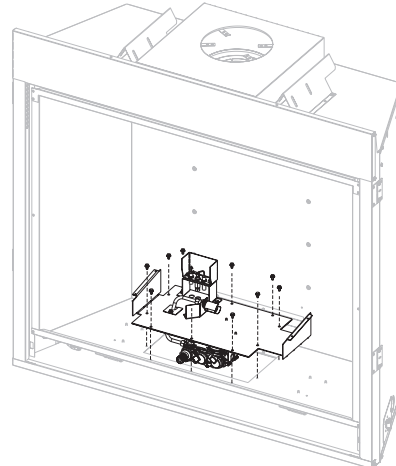

Figure 10
7. Remove seven screws and lift burner assembly. **See Figure 10.**
12. Reinstall the burner assembly and seven screws removed in step 7. **See Figure 10.**